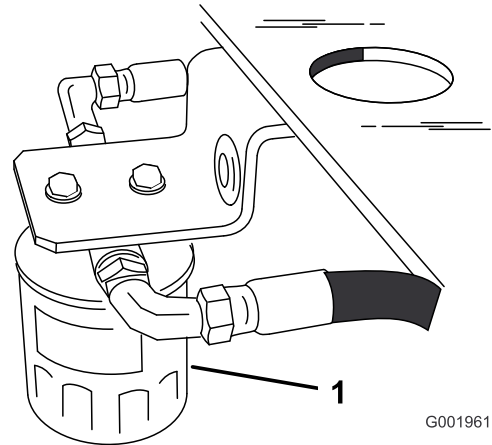

Figure 69
4. Locate the filter under the fuel tank and place drain pan under filter (Figure 69).